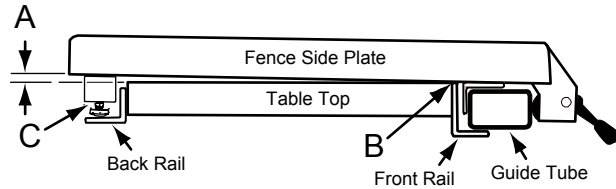

Figure 14
2. View the fence from the left side of the saw (Figure 14). Look for the space *between the table and the fence bottom* to be equal along the entire length of the fence (A, B, Fig. 14).
4. Using a 10mm wrench, loosen the *lock nut* that secures the foot adjustment (C, Fig. 14)
5. Rotate the *foot*, retracting it such that it does not come in contact with the *back rail* (Fig. 14).
When the space at points A and B (Fig. 14) are the same:
7. Extend the *foot* (C, Fig. 14) by rotating it until it just comes in contact with the *back rail*.